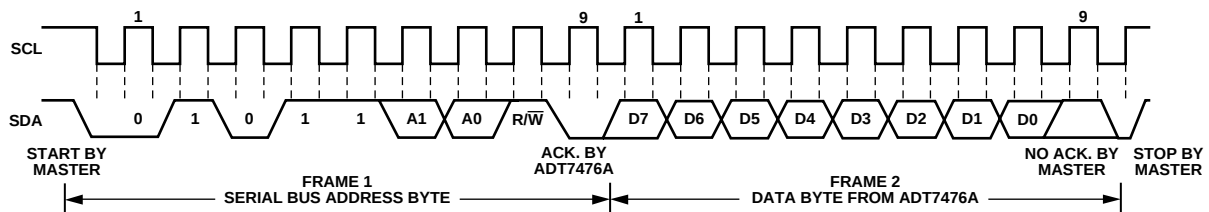

Figure 20. Reading Data from a Previously Selected Register
A read operation is then performed consisting of the serial bus address; $R/\overline{W}$ bit set to 1, followed by the data byte read from the data register (see Figure 20.)
2. If the address pointer register is already known to be at the desired address, data can be read from the corresponding data register without first writing to the address pointer register (see Figure 20).